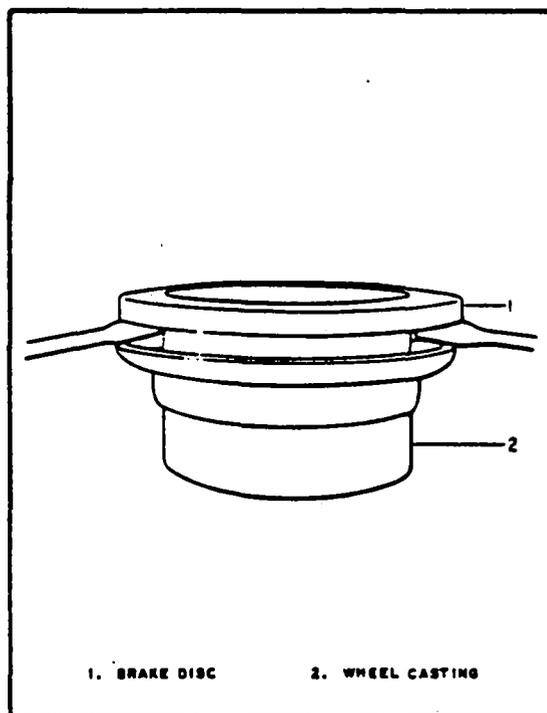

Figure 7-23. Removal of Wheel Brake Disc
- a. Place wheel half assembly into boiling water for five minutes and remove disc from wheel casting by use of pry bars. (Refer to Figure 7-23.)